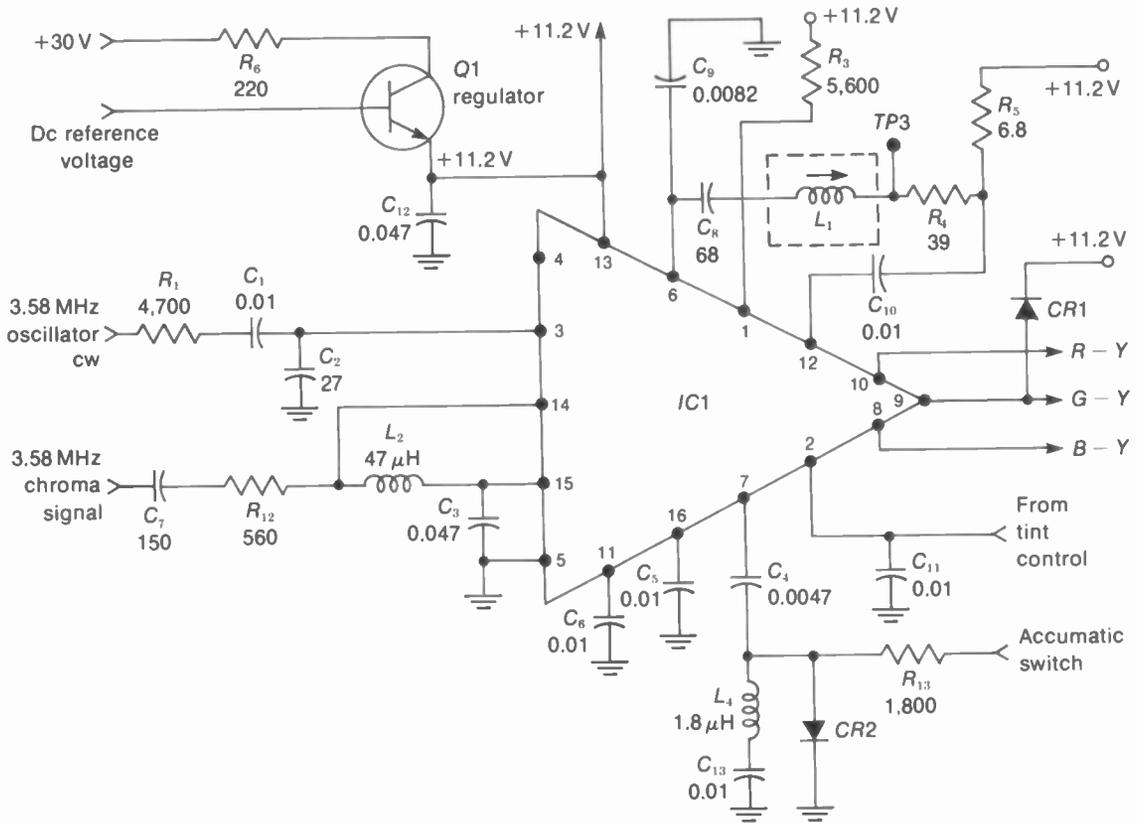

FIGURE 17-21 IC DEMODULATOR. R IN OHMS; C MORE THAN 1 IN PICOFARADS (pF), LESS THAN 1 IN MICROFARADS ( $\mu$ F). (FROM RCA CHASSIS CTC 59)
**IC demodulator module.** See Fig. 17-21. The integrated circuit here is one of two small modules with IC units that contain all the chroma stages. The other IC, not shown, has the bandpass amplifier, color killer, burst amplifier, color oscillator, and AFPC circuits. In Fig. 17-21, this IC unit has R - Y and B - Y demodulators, the G - Y adder, and three emitter-follower stages to isolate the output signals. Each goes to a separate module for matrixing and video drive to the red, blue, and green guns of the picture tube.
The 3.58-MHz chroma signal for demodulation is applied to pin 14 of IC1 in Fig. 17-21. This is applied directly to the R - Y and B - Y demodulators. The oscillator cw signal at pin 3 is amplified and limited for constant amplitude before being applied to the demodulators with the required quadrature phases. The only external adjustment is the tuning coil  $L_1$ , which is set for maximum 3.58-MHz oscillator cw at test point TP3. This circuit provides the 90° phase shift for the R - Y demodulator.
The regulator stage Q1 in Fig. 17-21 supplies 11.2 V regulated dc collector voltage for the stages in IC1 and other modules. At the base of the regulator the reference is 11.2 V from a zener diode. C12 is a bypass capacitor for the 11.2-V supply line from the emitter of Q1. Similarly C3, C5, and C6 are bypass capacitors for the internal stages of the IC unit.